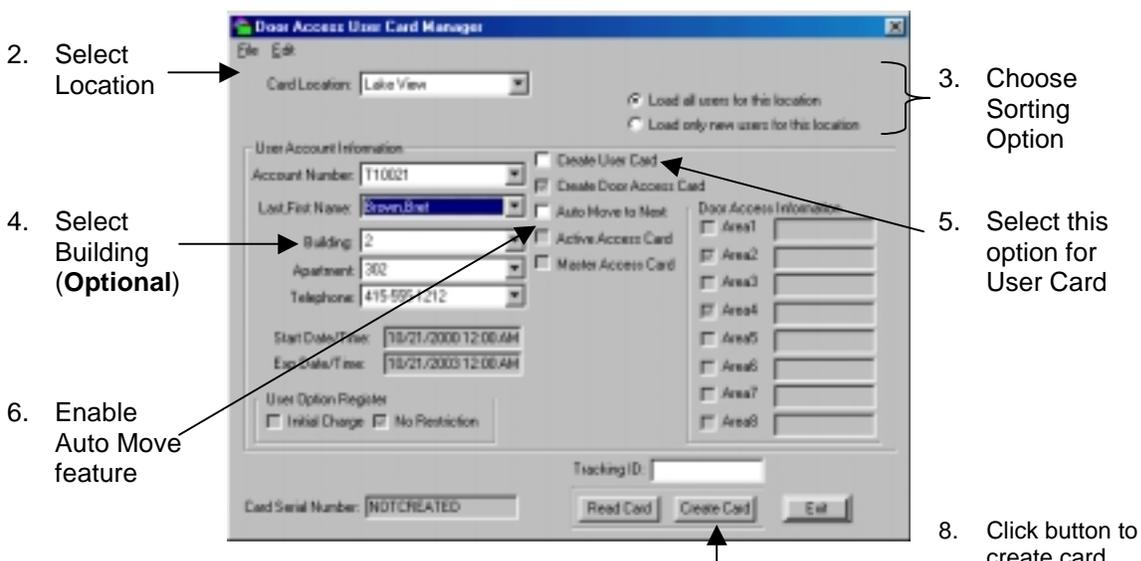

Figure 11.30 Multiple User Cards Creation
2. Select the users' location from the User Location selection (Figure 11.30).
3. If cards are being created only for new users, select the "Load only new users for this location" option (Figure 11.30).
4. If cards are being created only for a specific building for this location, select the building from the Building drop-down selection (Figure 11.30).
5. Enable the "User Card" option by clicking on it if the cards are also going to be used for laundry vending applications (Figure 11.30).
6. Enable the "Auto Move to Next" option (Figure 11.30).
8. Click the Create Card button and repeat process (Figure 11.30).